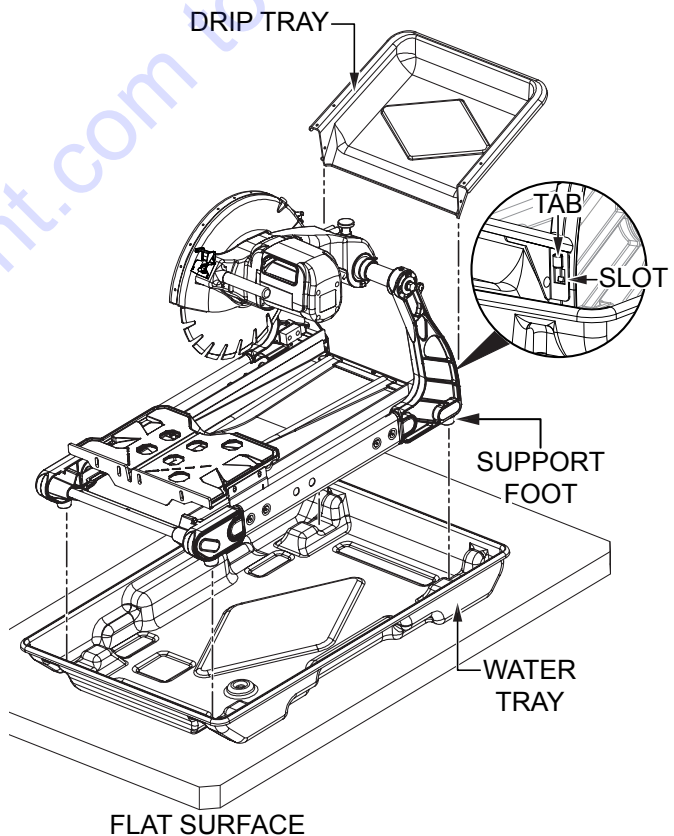

Figure 6. Water Tray and Drip Tray Installation
1. Place the water tray on a secure, level surface (Figure 6). Carefully lift the saw assembly and place it on top of the water tray as shown. **MAKE SURE** the four rubber support feet are fully seated in the corresponding holes in the water tray.
2. Attach the drip tray to the rear of the saw by sliding the two drip tray slots onto the two corresponding tabs at the rear of the saw (Figure 6).